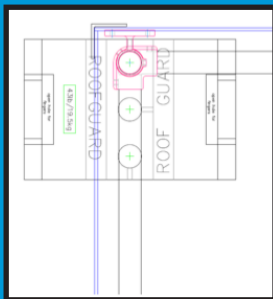

Figure 13: Toe-Board Outside Corner
6.4-D When coming to an “outside” corner — (the toe-board goes around the outside of the vertical post) the fitting at the corner will match one side of the railing. A corner splice plate may need to be added over the RGF-155 per Figure 13. Further the toe-board on the outside corner will likely need to be notched to pass over the baseplate.